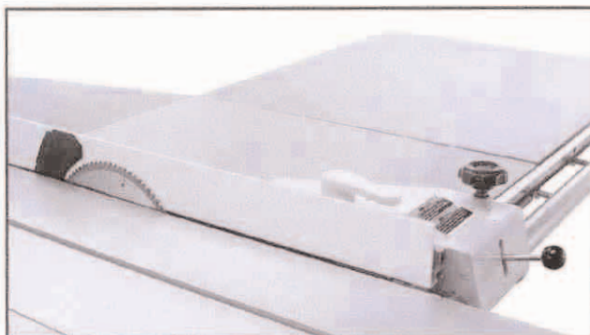

Figure 41. Fence against blade as a guide for aligning the scoring blade.
4. Remove the stop screw from the round rail and move the rip fence against the blade as shown in Figure 41.